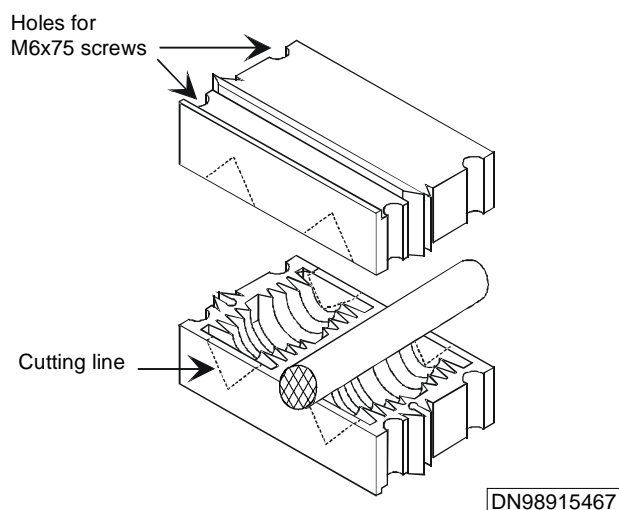

Figure 54 Cutting the cable entry
3. Determine the arrangement for the cable entry blocks. Use side-cutters to cut suitable V-shaped entries in the front and the back of all the rubber blocks used. See Figure 54. Ensure that the cutting lines do not reach the metal structure inside the rubber block.